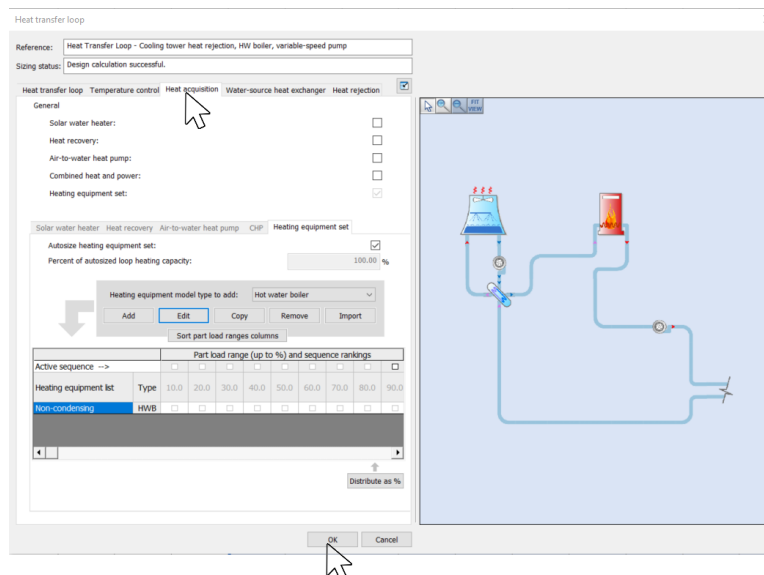

Figure 16: Heat Transfer Loop Window – Heat Acquisition
- Click "Heat acquisition" tab as shown in Figure 16 and set the parameters according to design conditions.